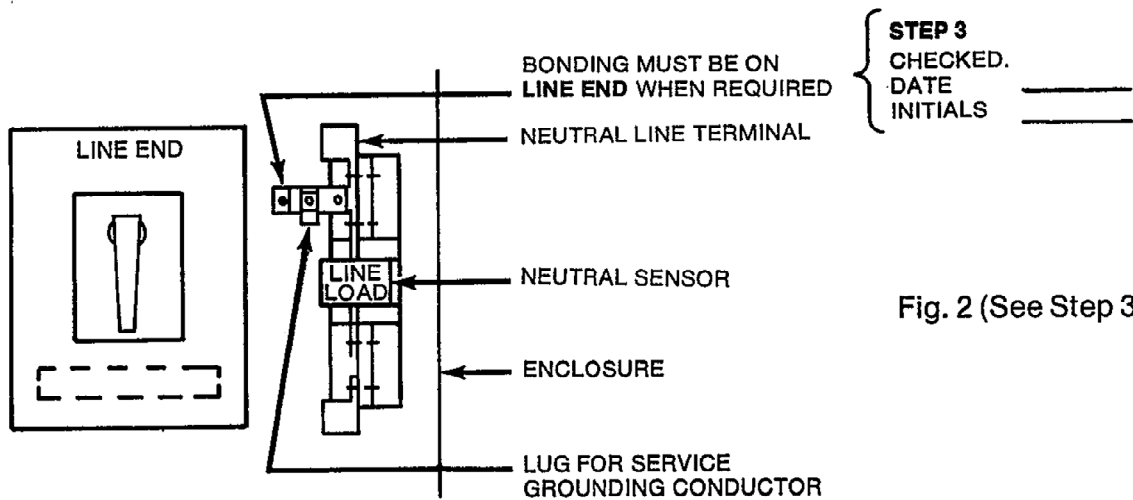

Fig. 2 (See Step 3)
3. Verify that neutral is grounded on the line side and that no other ground points exist which would bypass the neutral sensor. See Figure 2.